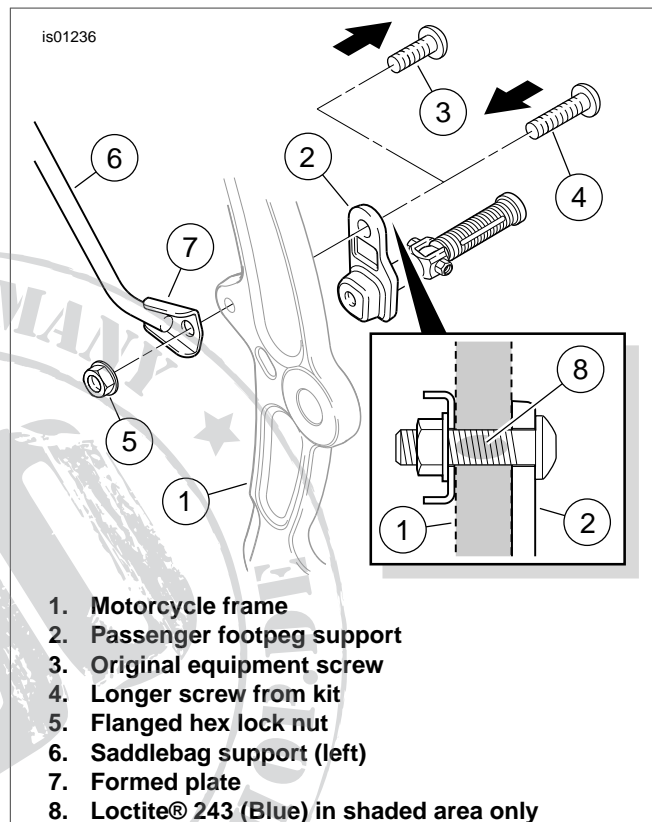

Figure 1. Lower Front Saddlebag Support (Left Side)
1. See Figure 1. Use a T-50 Torx® drive head to remove the 7/8 in. (22 mm) long screw (3) retaining the left-side passenger footpeg and footpeg support (2) to the motorcycle frame (1). Discard the screw.
- a. the lower left-side saddlebag support (6),
- b. the 1-1/2 in. (38 mm) long button head screw (7), and
- c. the larger-diameter flanged hex locknut (8).
3. See Figure 1. Insert the **new** Torx screw (4) from the kit through the hole in the footpeg support (2), then apply a few drops of Loctite® 243 (blue) (sold separately) to the portion of the screw threads (8) that will engage the threaded hole in the motorcycle frame.